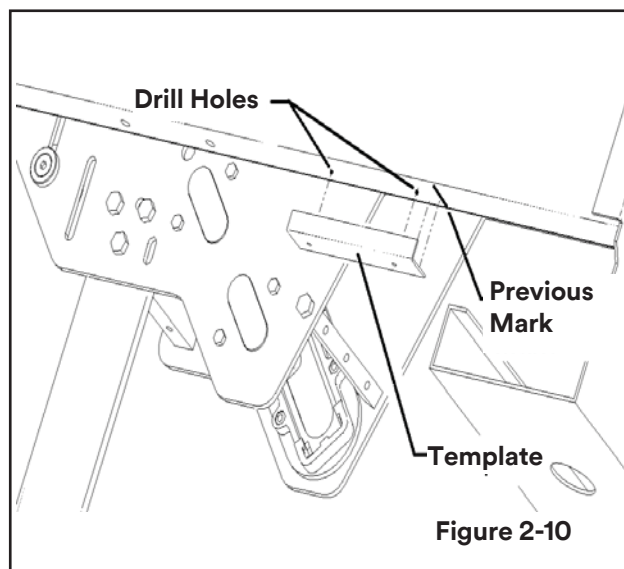

Figure 2-10
- 7) Mark the hole locations as shown in **(Figure 2-10)**.